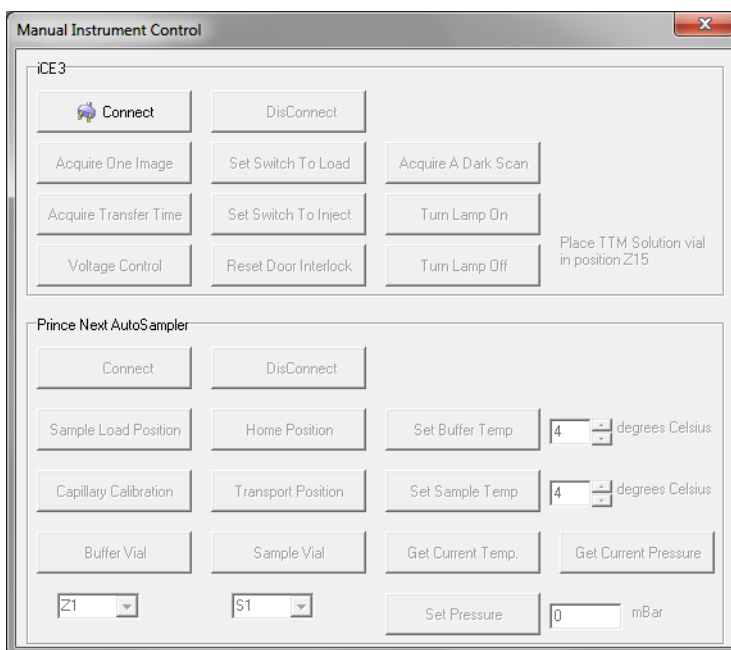

Figure 4-21: Manual instrument control screen.
1. In iCE CFR Software, select **Utility** from the main menu, click **Maintenance** and then **Manual Control**. The manual instrument control screen will display (Figure 4-21):